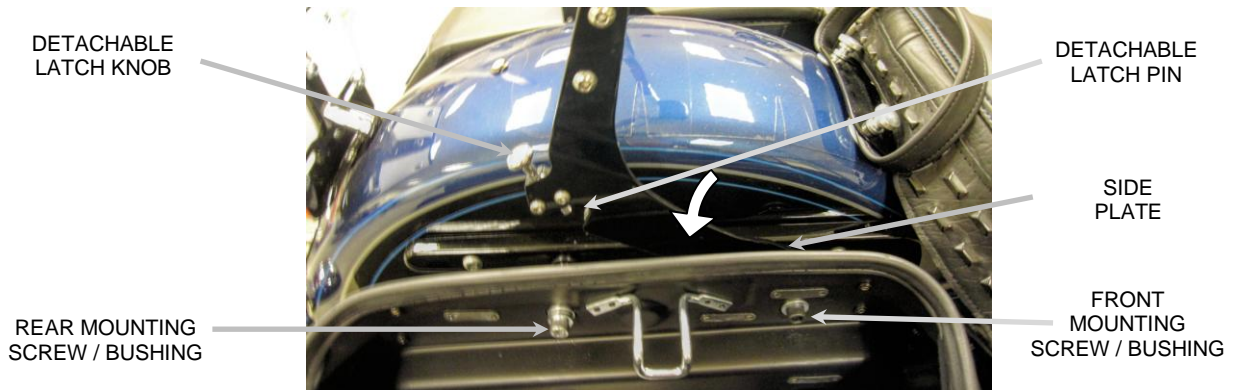

FIGURE 3
5. Install the assembled sissybar with the u-shaped grommets over the front mount bushings mounted in Steps 2 & 3. Once the bar is on the front bushings, push forward on the bar firmly from the rear of the motorcycle to seat the grommets fully in the side plates and on the bushings, **Figure 3**.